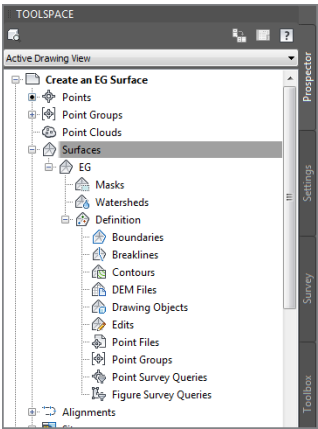

FIGURE 4.3 The contents of a surface shown in Prospector
- 5. In Prospector, expand Surfaces > EG > Definition. Study the items listed beneath EG in the tree (see Figure 4.3).
As shown in Figure 4.3, you can use many potential types of information to create a surface and control its shape. The following list describes each one briefly: